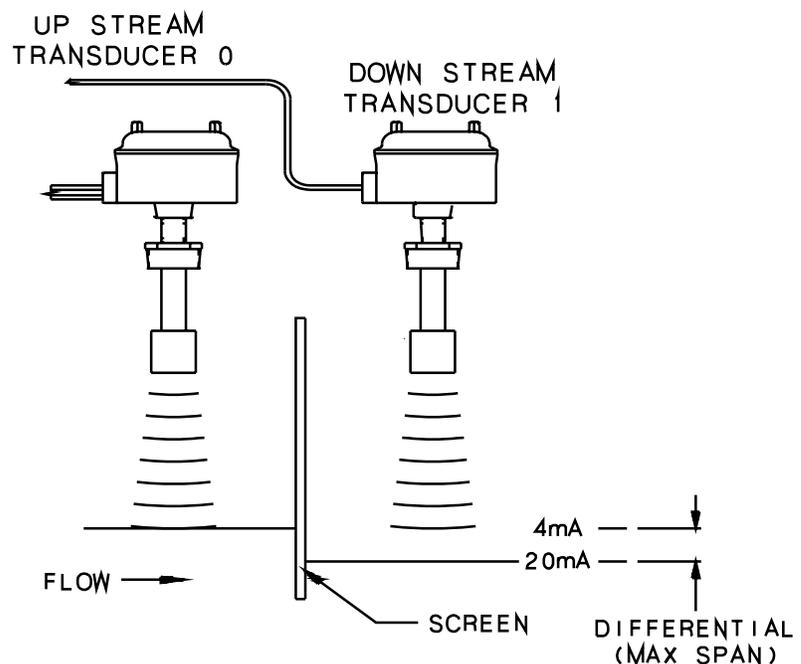

Figure 4-1
- Set span switches to the maximum difference that you want to measure. See *Figure 4-1*.